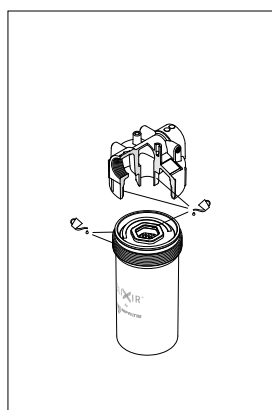

fig. 17
- (Fig. 17) Lubricate with the operating fluid the filter housing tap, the filter element and bowl seals, and the threads of head cavity and bowl